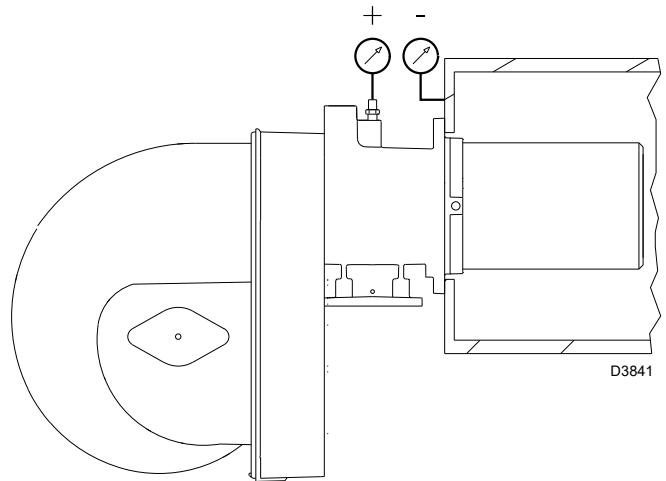

Fig. 26
- Assemble a pressure gauge (Fig. 26) on the gas pressure test point of the pipe coupling.
As an indicative guide it can be taken from on page 22, just read the gas pressure on the pressure gauge (shown in Fig. 26 on page 26) and follow the instructions given on page 22.